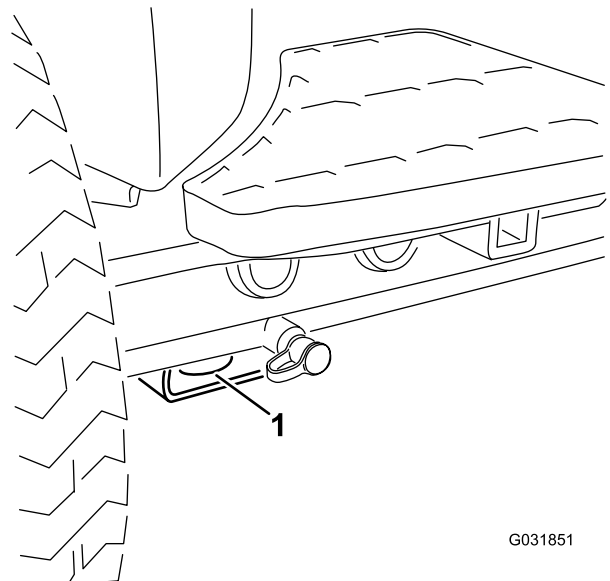

Figure 69
- Front—the hole in the rectangular pad, under the axle tube, inside each front tire (Figure 69)